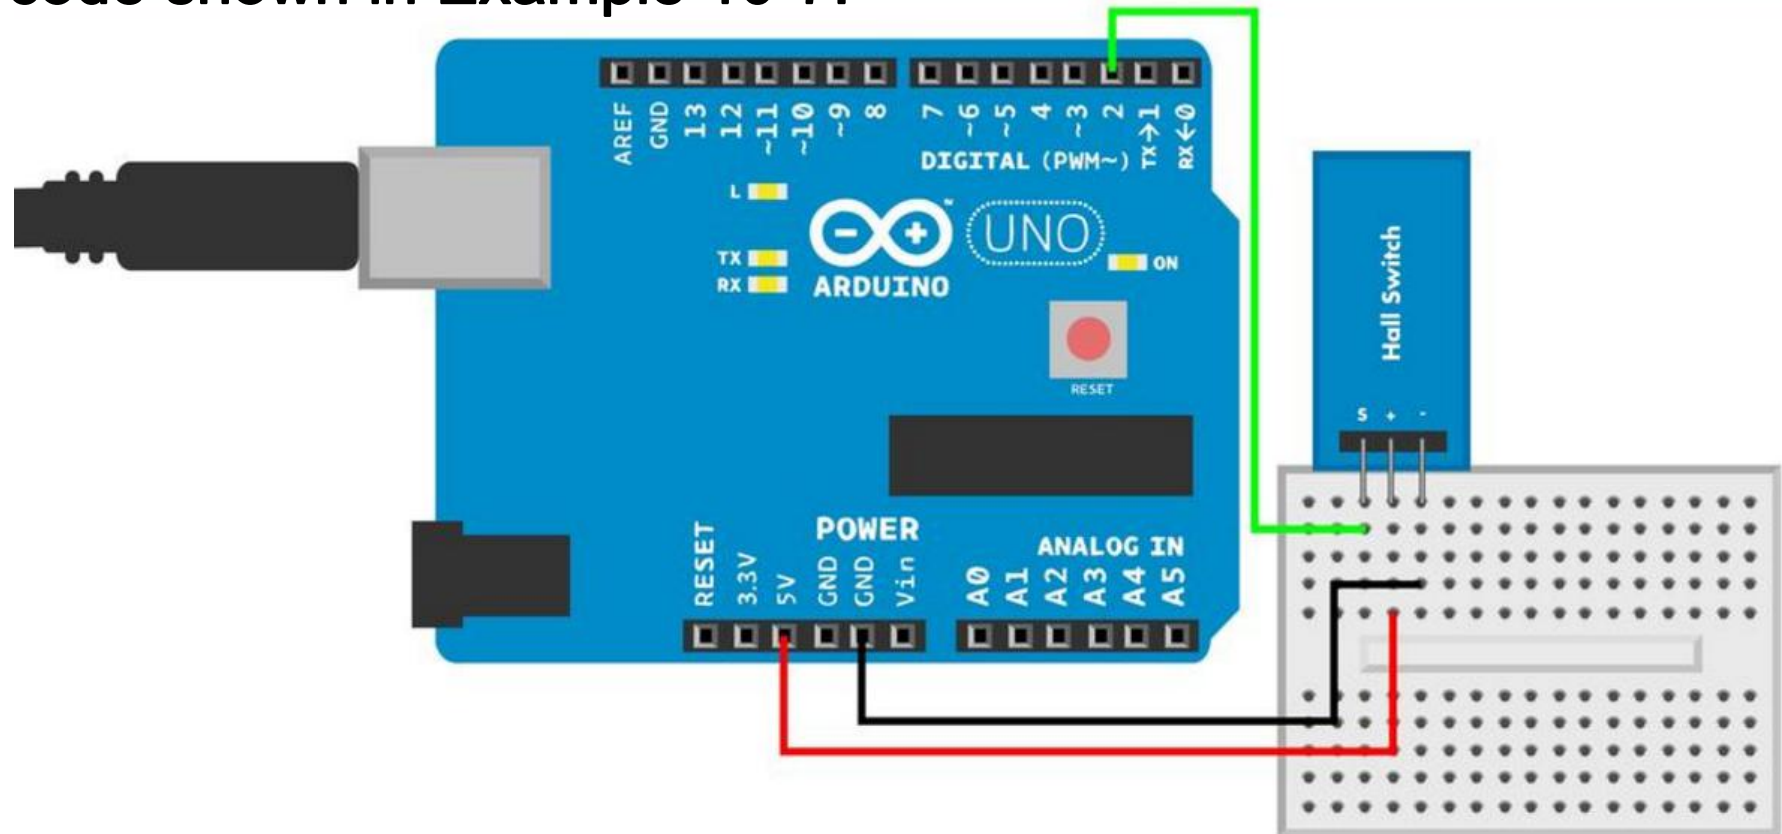

Figure 10-10. Arduino circuit for Hall switch
- Figure 10-10 shows the wiring diagram for Arduino. Wire it up as shown, and then run the code shown in Example 10-7.